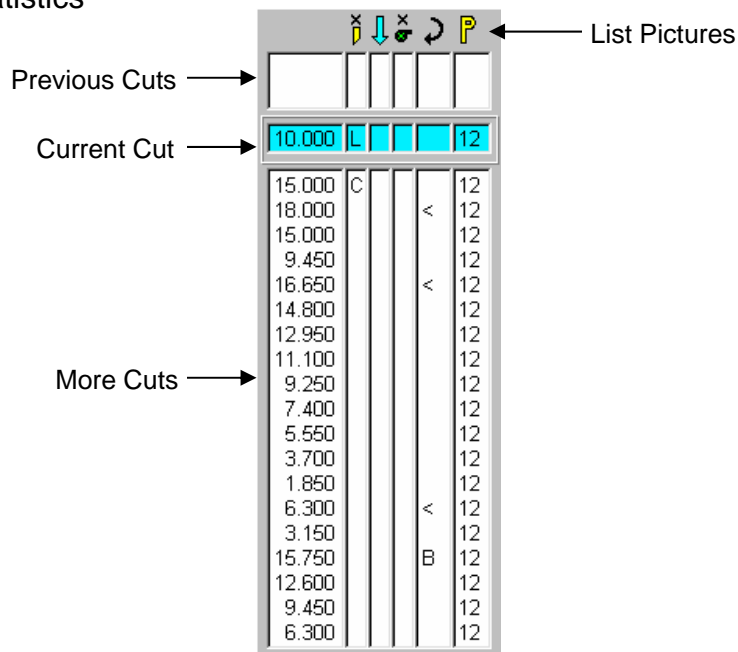

Figure 21 – Job Statistics
- K. Job Statistics (See Section 6.12.3 ,Figure 21)